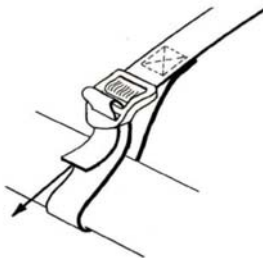

FIGURE 3
4. Attach the short ends of the lashing straps to the cargo carrier as shown in figure 3.